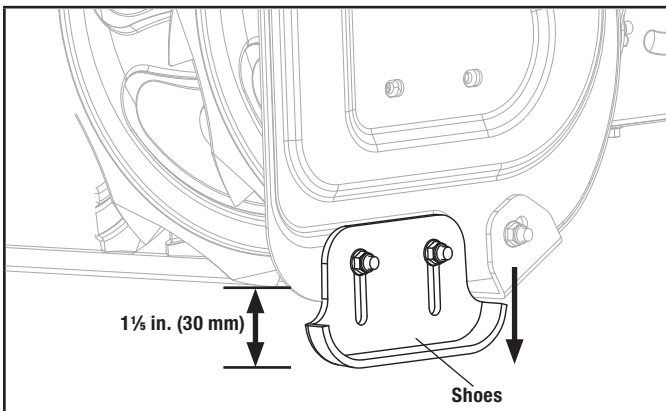

Figure 17B
- On uneven ground, e.g. gravel paths, the shoes should be adjusted to about $1\frac{1}{8}$ in. (30 mm) (the distance from the auger to the ground) (Fig. 17B).